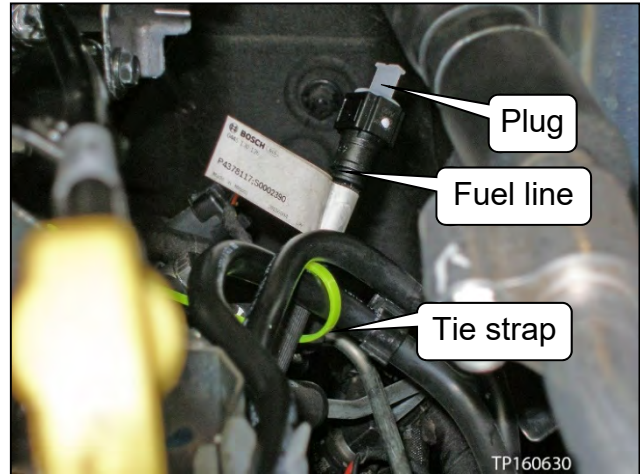
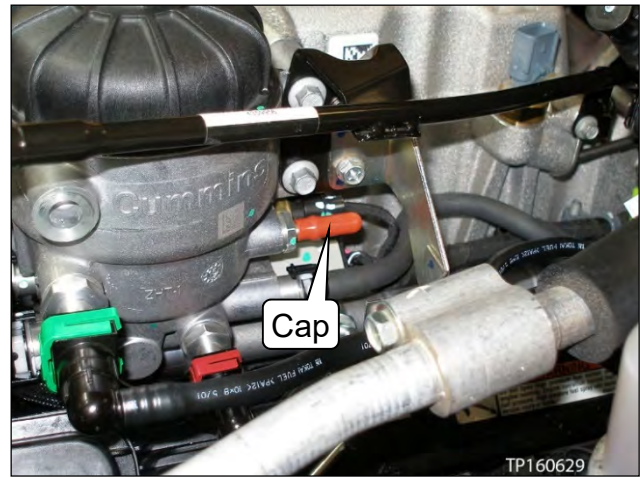
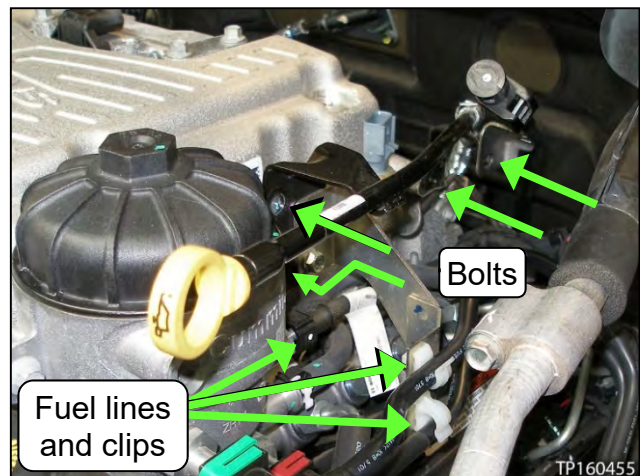

Figure 102
Figure 103
Figure 104
39. Carefully cut, and then remove the tie strap (see Figure 102).
40. Remove the plug and cap, and then connect the fuel line to the stage 2 fuel filter assembly (see Figure 102, Figure 103, and Figure 104).
41. Install the four (4) bolts. See Figure 104.
42. Snap the two fuel lines in their clips (see Figure 104).